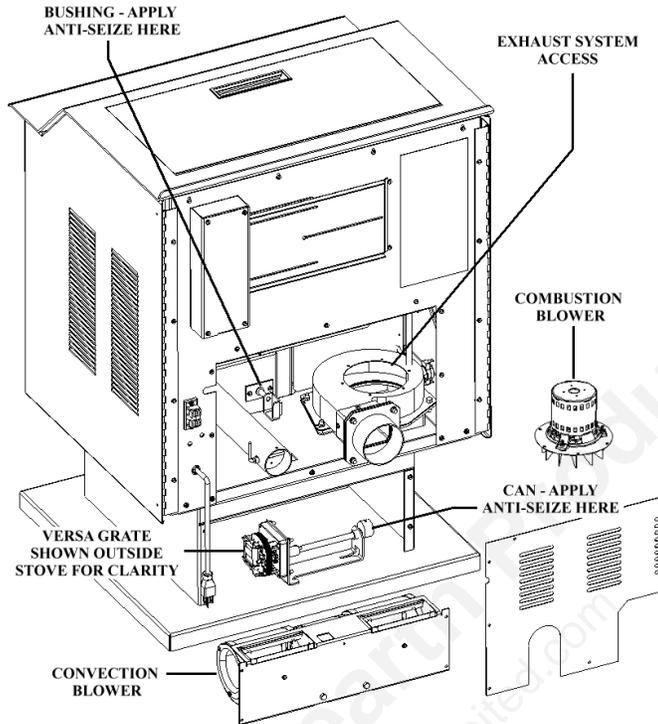

Figure 26
2. The exhaust system should be thoroughly cleaned at least annually. Call your dealer for this service. (See figure 26 on the following page)
3. The motor/fan area behind the firebox and under the hopper should be vacuumed annually. (See figure 26 on the following page)
4. The exhaust fan should be removed and cleaned with compressed air annually. Call dealer for this service. Annual oiling of the motors is not needed. (See figure 26 on the following page)
5. The Convection fans should be removed and cleaned with compressed air annually. (See figure 26 on the following page)